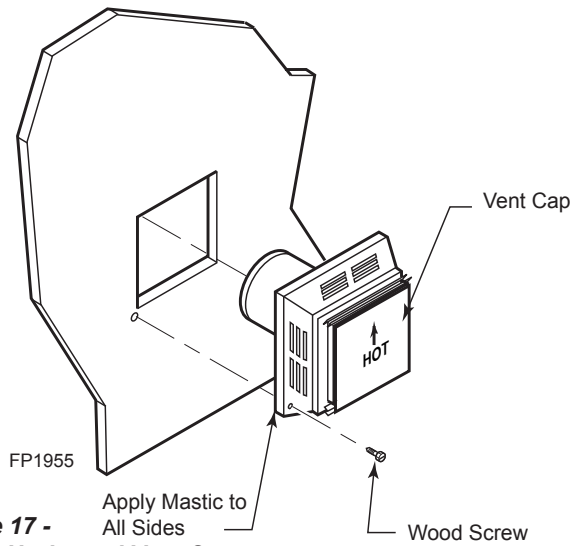

Figure 17 - Install Horizontal Vent Cap
5. Apply a bead of non-hardening mastic around the outside edge of vent cap. Position the vent cap in the center of hole on the exterior wall with the word "UP" on the vent cap facing up. Insure proper clearance of 1" to combustibles is maintained. Attach the vent cap with four wood screws supplied. *Figure 17*